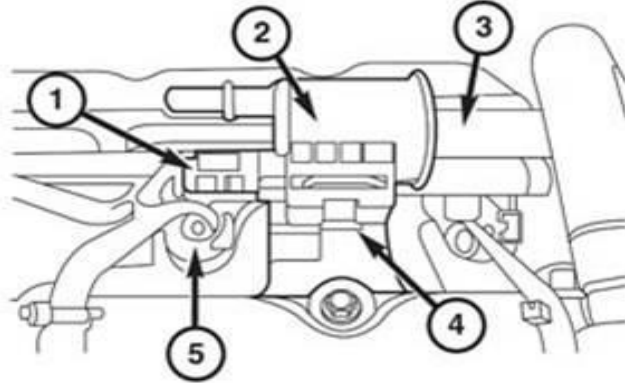

Fig. 5 Hose At Purge Valve
10. Remove the quick connect fuel/vapor jumper hose from the duty cycle purge valve (Fig. 5). Refer to the detailed service procedures available in DealerCONNECT> TechCONNECT under: Service Info>14 - Fuel System/Fuel Delivery, Gas/Fitting, Quick Connect/Standard Procedure.
11. Using care, roll the foam isolator away from the duty cycle purge valve (Fig. 5).
12. Remove purge hose from duty cycle purge valve (Fig. 5).
15. Install quick connect fuel tank hose to duty cycle purge valve (Fig. 5).